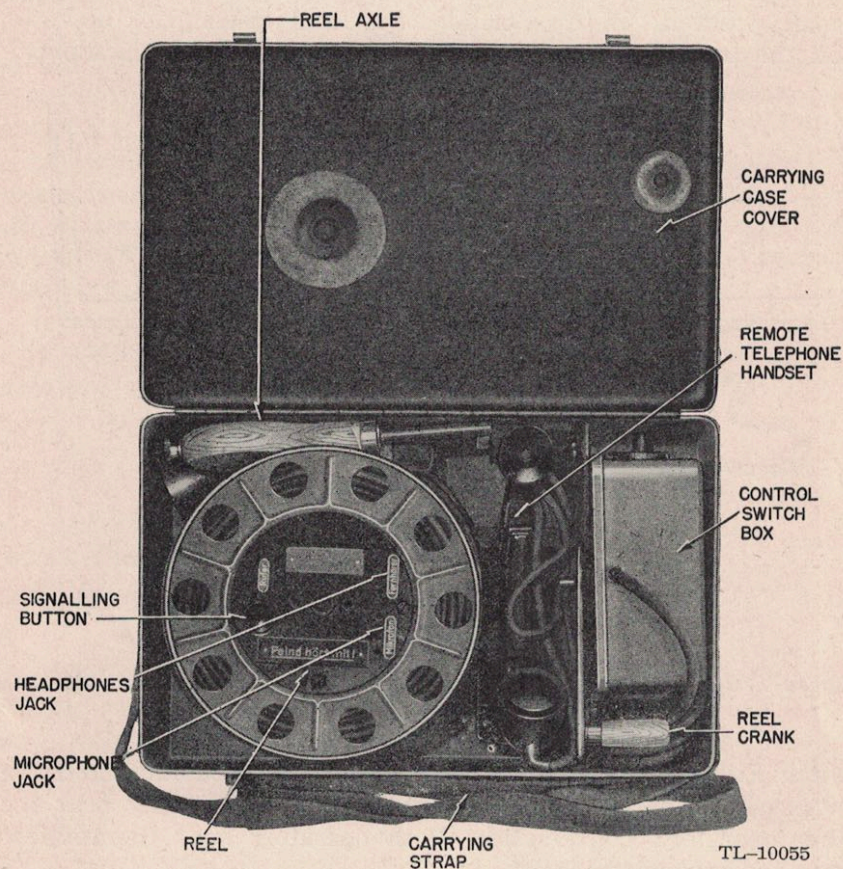

Figure 6. Remote operation equipment for German radio sets, Torn. Fu. b1. and Torn. Fu. f., packed in case.
a. **General.** The set includes a case which contains the following equipment for remote voice operation (fig. 6).
- (1) Reel containing 50 meters (165 feet) of cable.
- (2) Reel axle for winding and unwinding reel.
- (3) Reel crank used in conjunction with the reel axle.
- (4) Control switch box used at the transmitter location.
- (5) Remote telephone handset.
b. **Installation.** (1) The control switch box is located at the transmitter and is connected to the five-contact jack on the set marked **Fernbesprechung** (remote control jack) by the five-contact plug on the switch box.